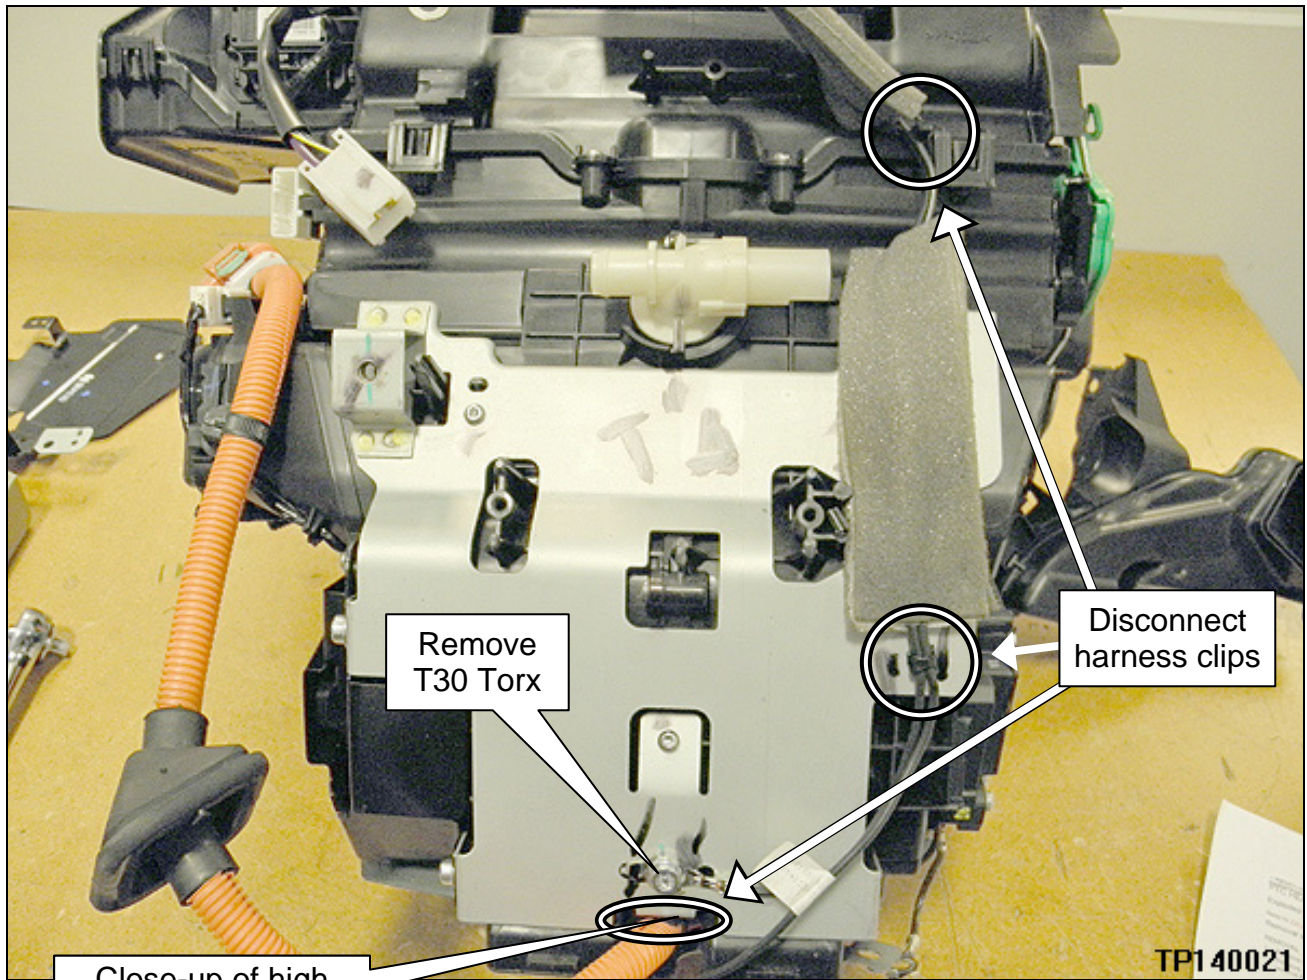
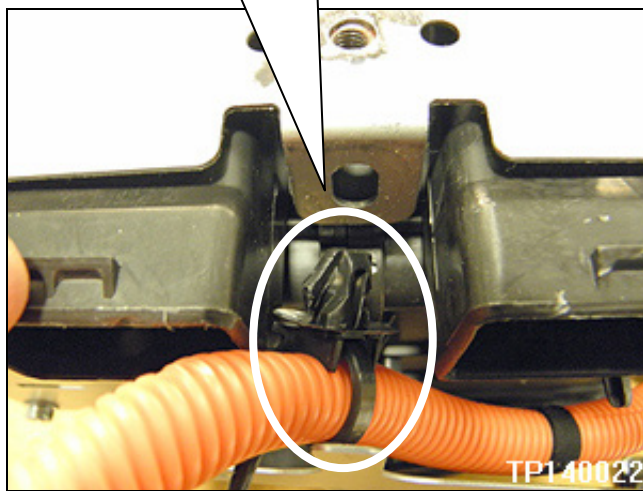

Figure 28
Figure 29
5. Disconnect PTC heater harness from the HVAC case (shown in Figure 28 and Figure 29).